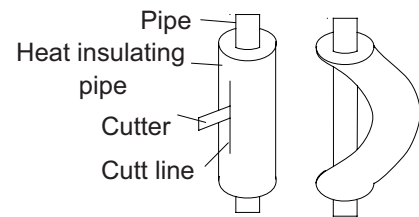

Figure 3-2-5
(4). When bending the pipe, do not bend it as is. The pipe will be collapsed. In this case, cut the heat insulating pipe with a sharp cutter as shown in Figure 3-2-5, and bend it after exposing the pipe. After bending the pipe as you want, be sure to put the heat insulating pipe back on the pipe, and secure it with tape.